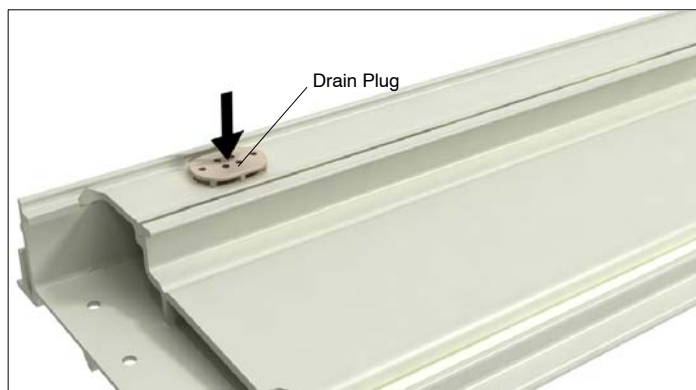

Figure 4
4. Use the needle nose pliers to remove the existing drain plugs. (The plugs fit tight so they may come out in pieces.) Install the new drain plug. See figure 4.